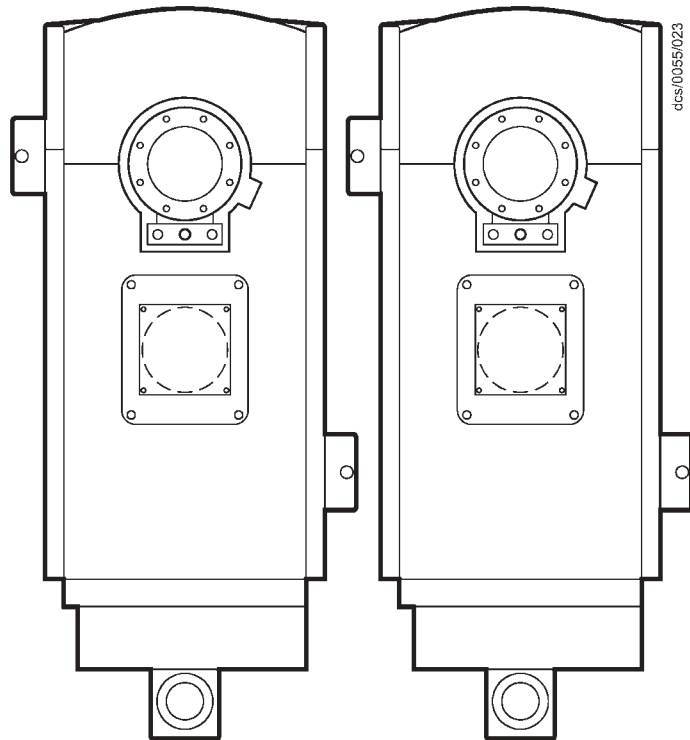

Figure 3-7 - System arrangement to reduce effective footprint (if required)
- although the iK500 is supplied with four seismic brackets, two brackets are capable of protecting the system during an earthquake. The system can therefore be secured as shown in Figure 3-7, for example, to reduce the effective system footprint if required.